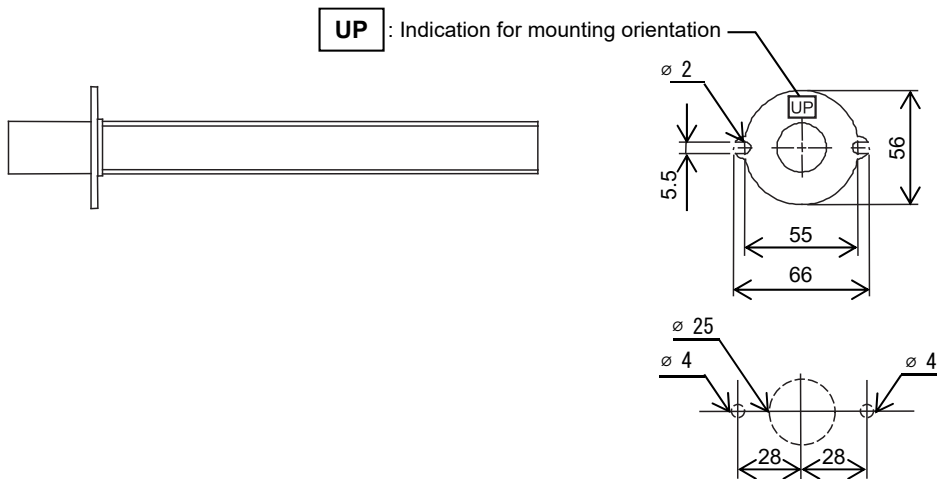

Figure 2. Dimensions (mm): Sampling probe
- 2) Drill a \varnothing 25 mm hole for mounting the sampling probe and two \varnothing 4 mm holes for the screws, as shown in Fig. 2.
- 5) Check the mounting orientation. 'UP' mark on the sampling probe (shown in Fig. 2) must be positioned on the upper side. Then, fix the sampling probe with M4 screws and washers (two for each) on the both bilateral sides.